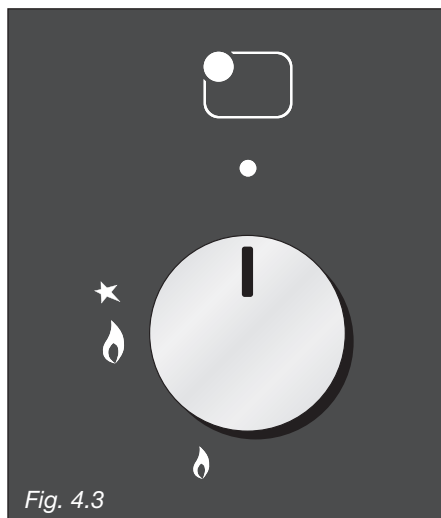

Fig. 4.3
Gas flow to the burners is adjusted by turning the knobs (illustrated in fig. 4.3) which control the valves.
- 1 – Push and turn the knob in an anti-clockwise direction up to the  position (maximum rate), push in and hold the knob until the flame has been lit (fig. 4.3).